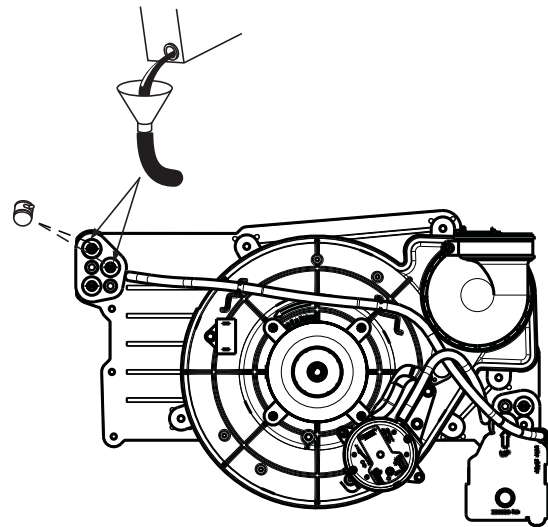

Fig. 57 - Priming Condensate Trap
1. Remove upper and middle collector box drain plugs opposite of the condensate trap. See Fig. 57.